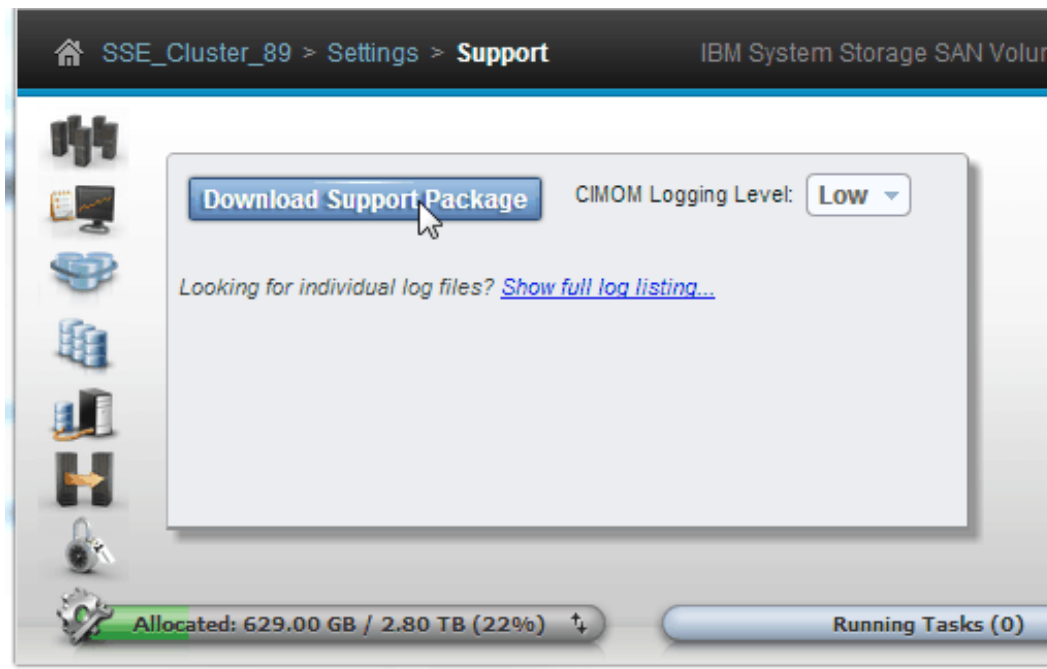

Figure 15-2 Download Support Package
1. Click **Download Support Package**, as shown in Figure 15-2.